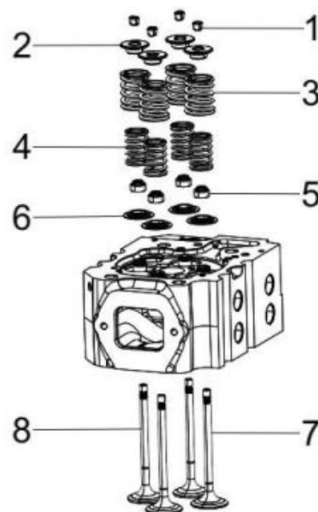

Figure 55. Cylinder Head Assembly.
9. Remove the valve collet (Figure 55, 1).
11. Remove the spring top retainer (Figure 55, 2) and outer/inner valve spring (Figure 55, 3/4).
13. Turn the cylinder head so the exhaust port side faces down. Remove the intake and exhaust valves (Figure 55, 7/8) from the cylinder head.
14. Remove the valve stem seals (Figure 55, 5).
15. Remove the spring bottom retainer (Figure 55, 6).